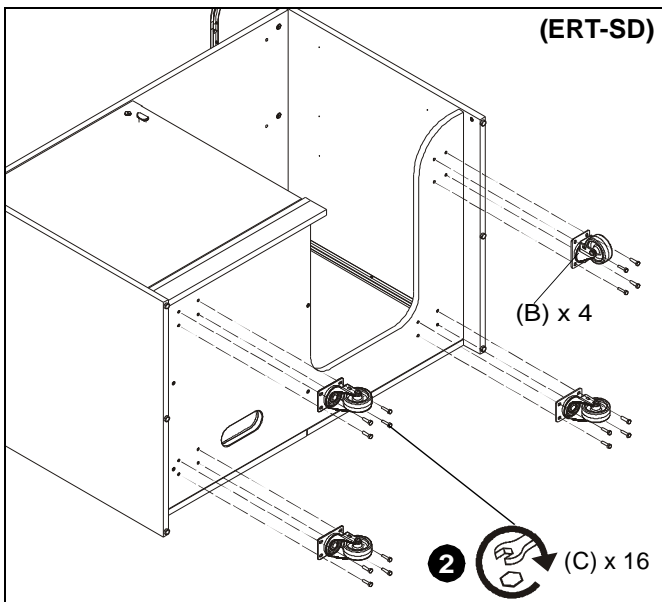
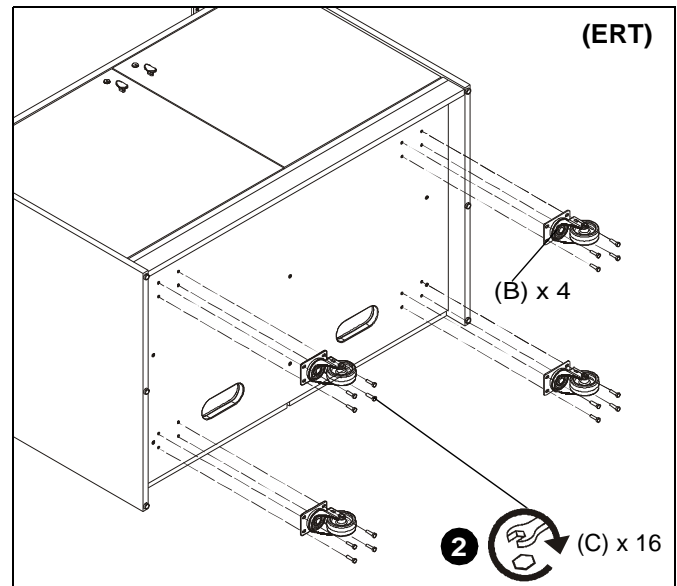

Figure 1
Figure 2
1. Set ERT desk (A) on its side.
2. Use sixteen 1/4-20 x 1" hex head tapping bolts (C) to secure four casters (B) to ERT desk (A). (See Figure 1) and (See Figure 2)